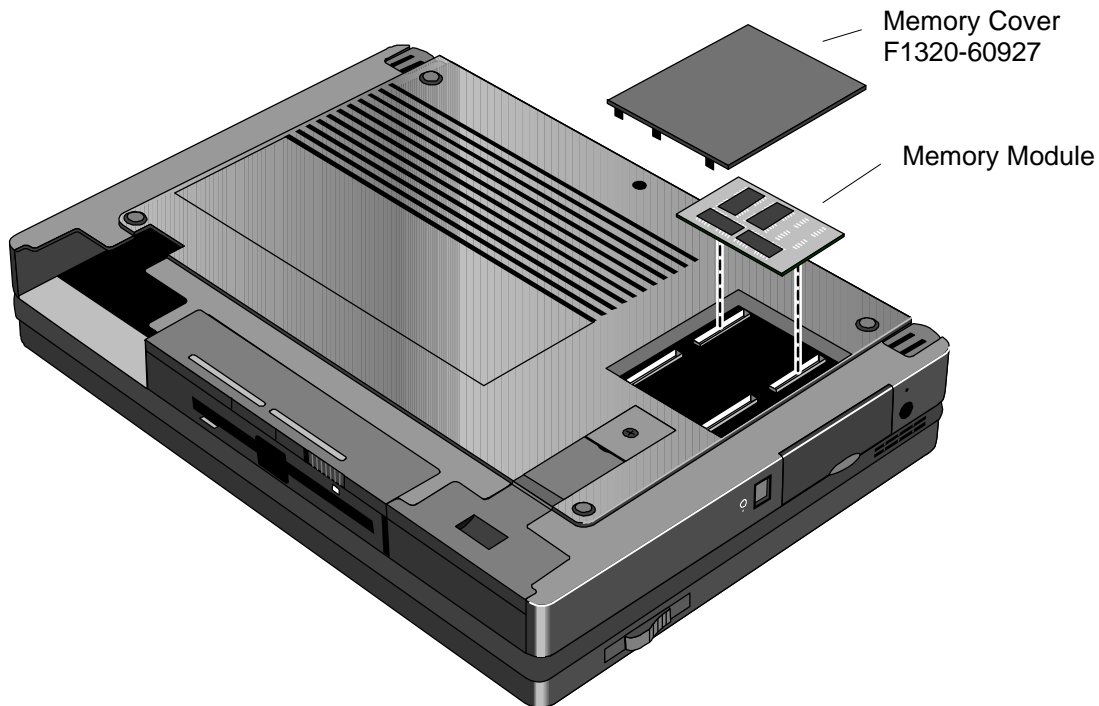

Figure 20 - Removing Memory
4. Pull out the memory board by lifting up on the removal tab. See Figure 20.